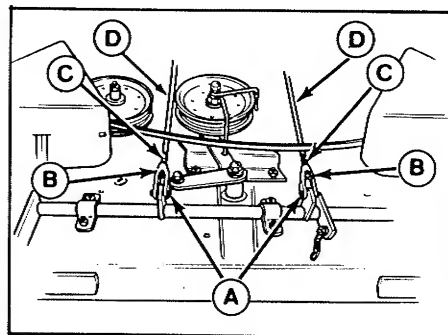

Figure 37. Turnbuckles
5. If adjustment is needed, remove the two pins (A, figure 37) by removing the cotter pins. Loosen the jam nuts (C).